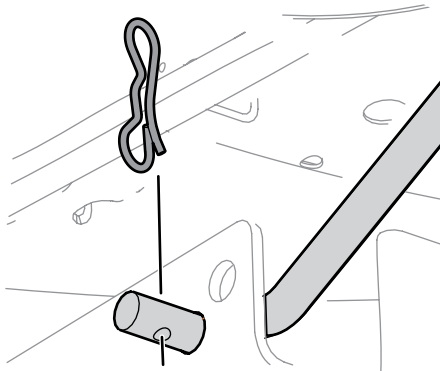

Figure 4-5
14. Pull the bow-tie pin out of the front deck lift rod securing it to the deck. See Figure 4-5. Slide the deck lift rod out of the front hanger bracket.